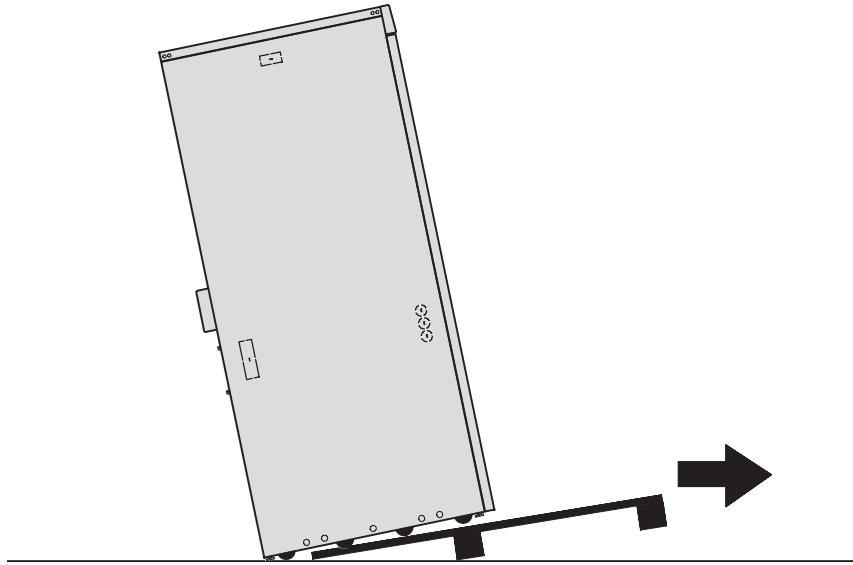

Figure 9. Removing the Pallet (UPS Shown)
10. With the cabinet supported, slowly pull the pallet away from the cabinet (see Figure 9).